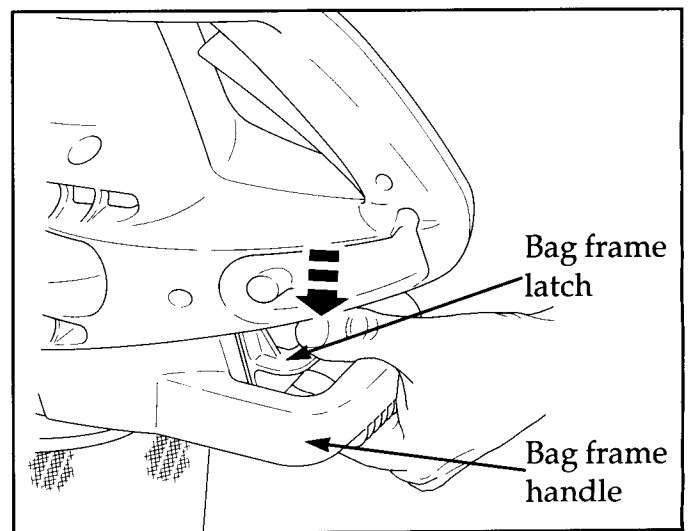

Figure 4
5. To remove the vacuum bag, press the bag frame latch and lower the bag frame handle. Then move the bag frame forward and remove it from the frame hook. Figure 4
1. To remove the vacuum bag, press the bag frame latch and lower the bag frame handle. Then move the bag frame forward and remove it from the frame hook. Figure 4.